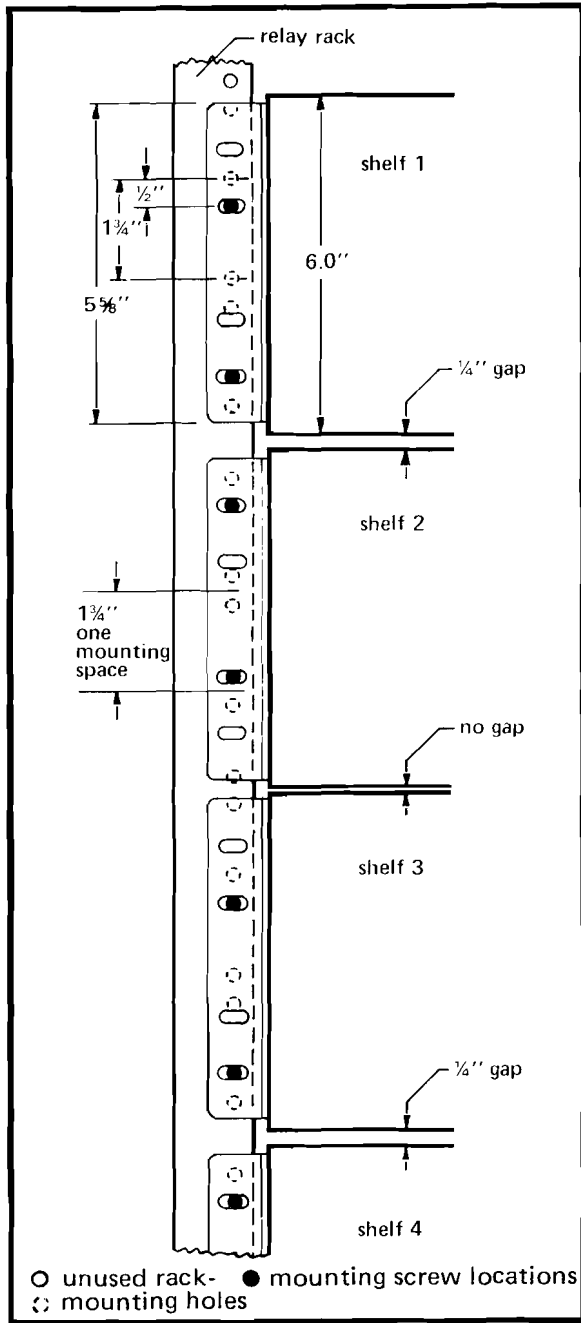

figure 8. Shelf lineup for maximum density in relay racks drilled on 1/4-inch centers
2.04 Relay-rack-configured Type 10 Shelves can be mounted in any desired arrangement in 19- or 23-inch racks with 1 $\frac{3}{4}$ -inch mounting spaces (i.e., drilled on 1 $\frac{3}{4}$ -inch centers). In the most efficient arrangement (figure 8 or 9), shelves 1 and 2
Note: When mounting Type 10 Shelves per figure 8 or 9, be certain that the screw holes in the shelf mounting ears and those in the relay rack are lined up **exactly** as shown and that screws (two per mounting ear) are inserted **exactly** where indicated in the figure. Note that a 1 $\frac{3}{4}$ -inch gap will occur between shelves 1 and 2; this gap will also occur between shelves 3 and 4, 5 and 6, etc. No gap will exist between shelves 2 and 3, 4 and 5, etc. If shelf 1 is mounted properly, the others will automatically fall into the correct pattern.